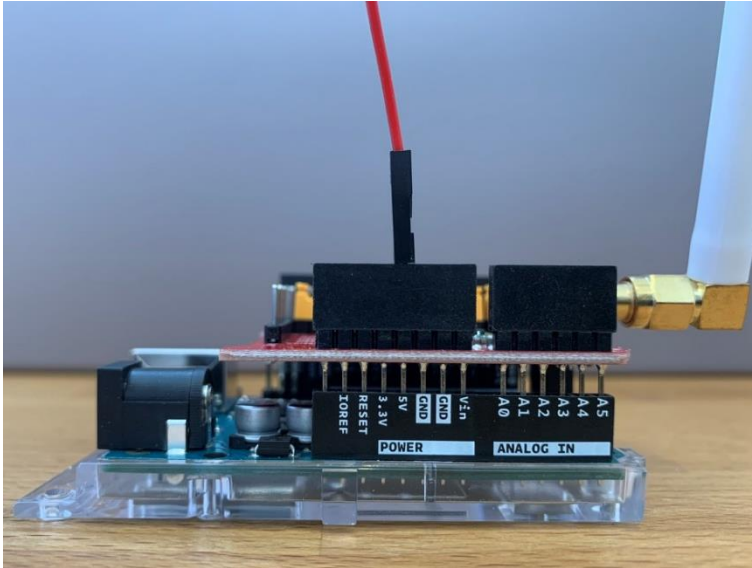

Figure 10: Red wire connected to the 5V terminal
- a. VCC (red wire) to the 5V terminal (Figure 10)